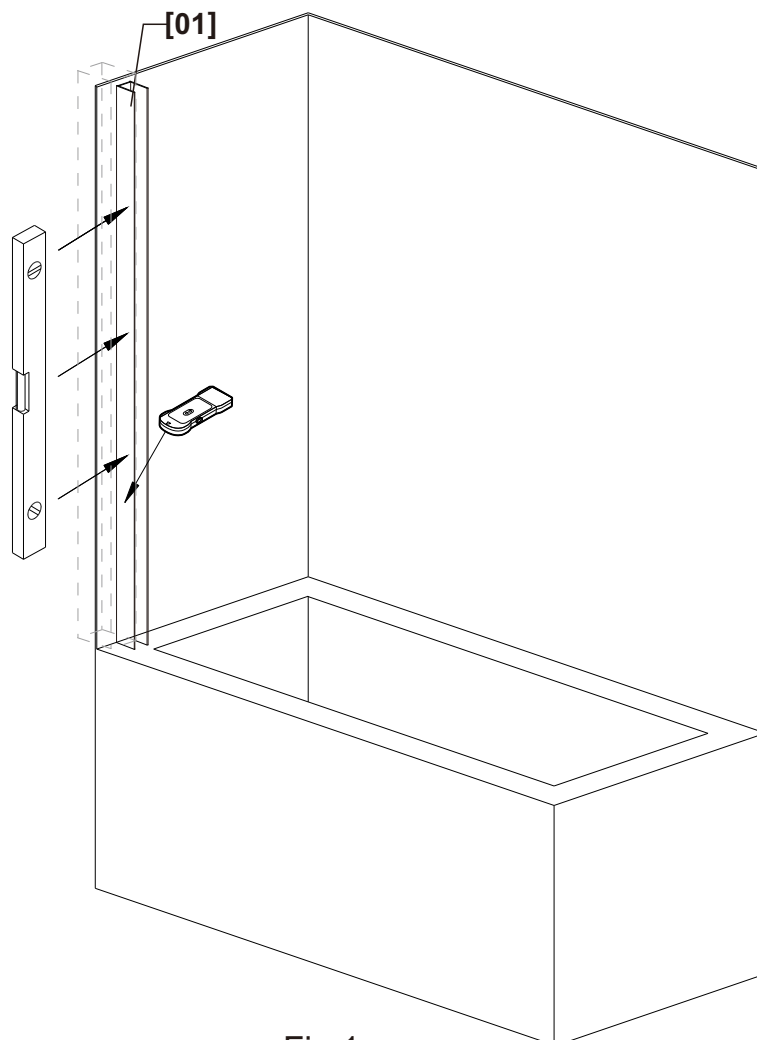

Fig 1
**IMPORTANT:** Using a stud finder, ensure the wall intended to hold the door has a stud at the installation point. If there is no stud in the shown area, we recommend employing a qualified contractor to install one. (Fig 1)
3. Using a level, position the **Wall Post [01]** on the tub deck and against the wall, in line with your threshold/tub deck. This unit requires 1" of flat tub deck space for installation (Fig 1).